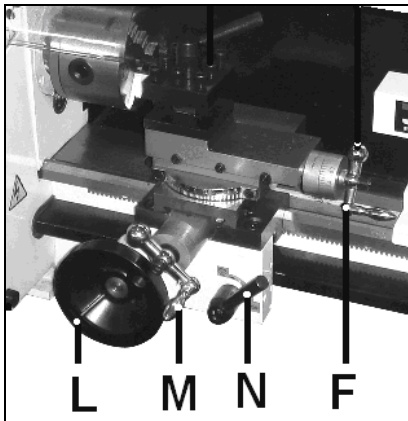

Fig 8
Apron travel (L, Fig 8), cross travel (M) and top slide travel (F) can be operated for longitudinal and cross feeding.
Engage the half nut (N, Fig 8) for auto-feed.
Engage the half nut (N, Fig 8). The half nut must be engaged during the entire threading process.